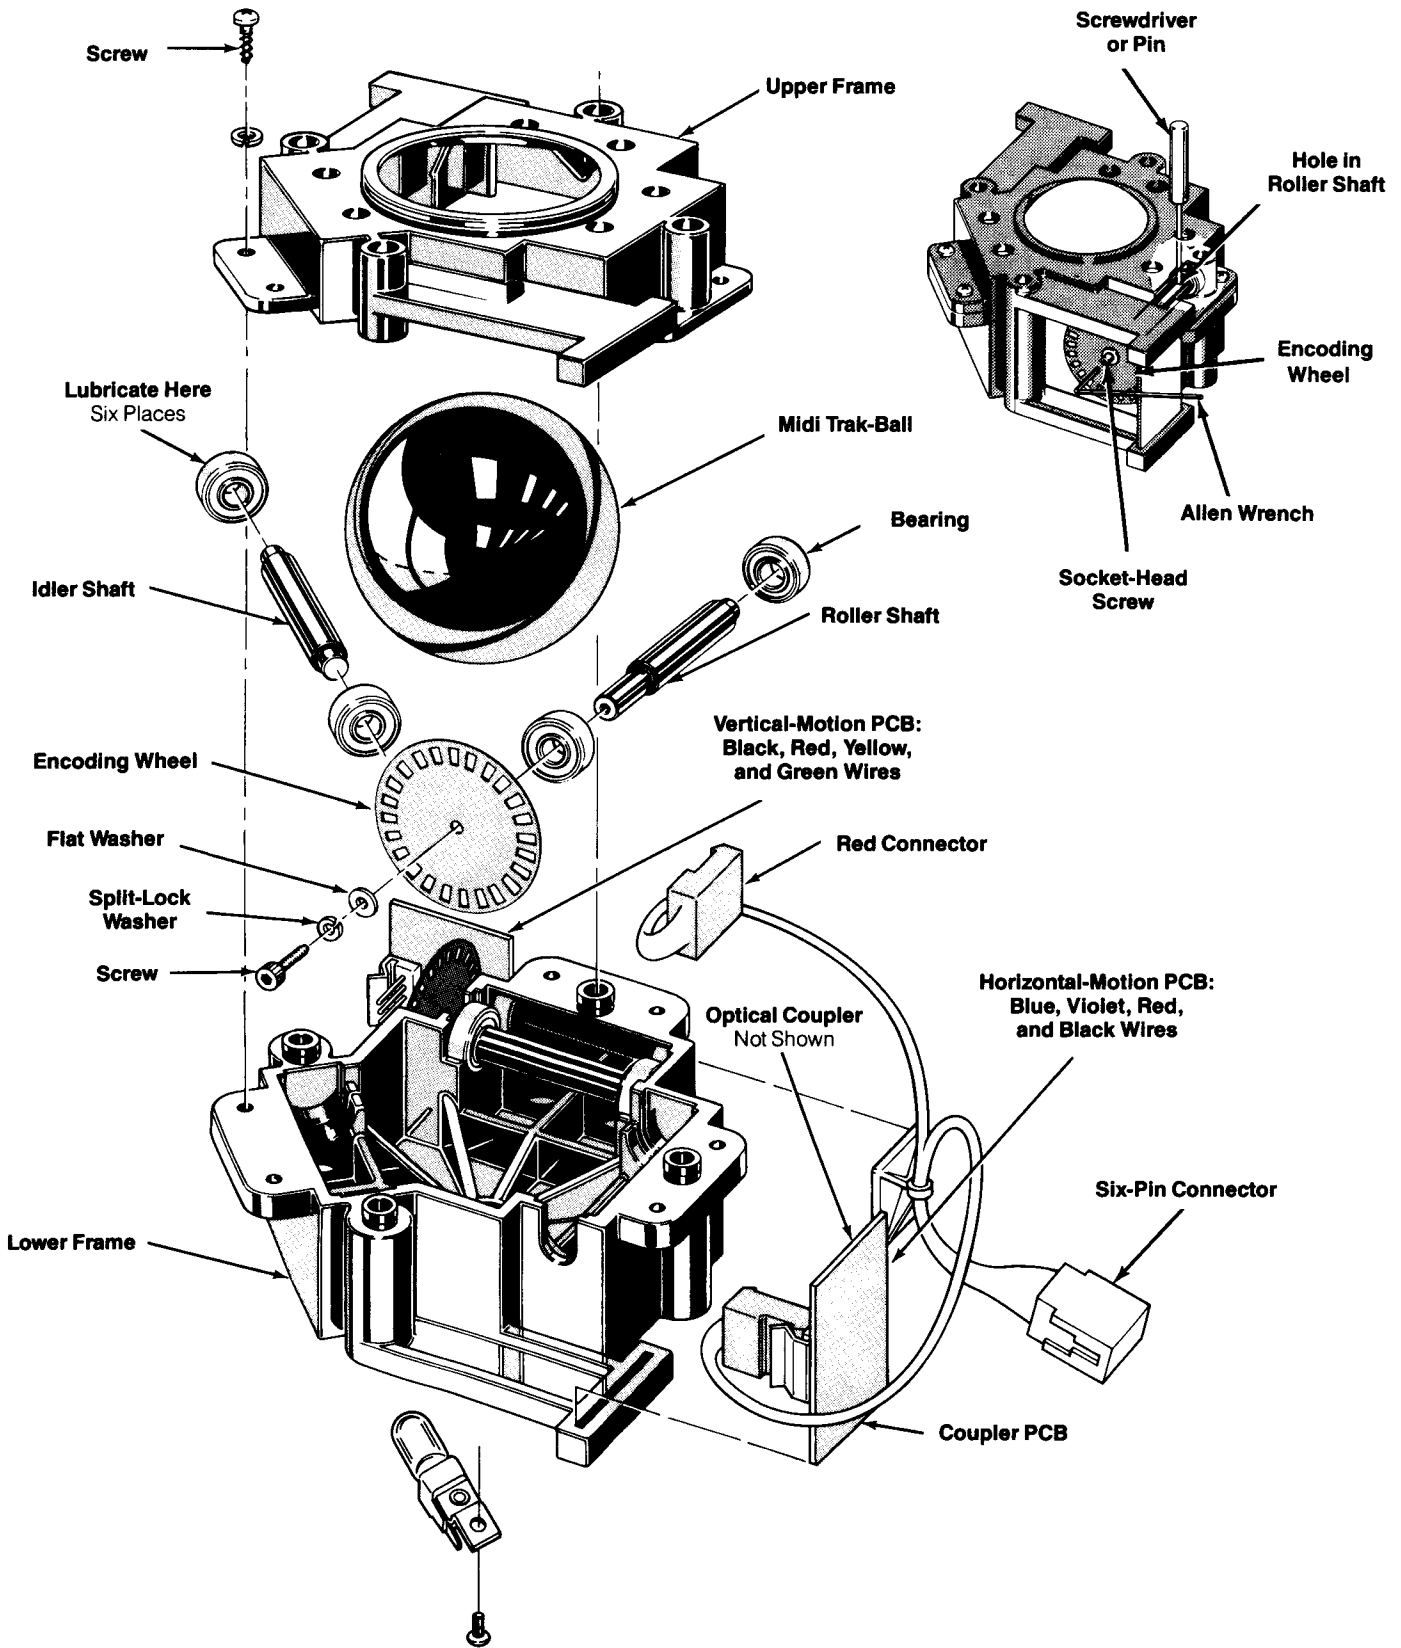

Figure 4-1 Midi Trak-Ball™ Assembly and Lubrication
2. Remove the four nuts and carriage bolts that secure the Midi Trak-Ball assembly to the control panel (see Figure 4-1).
To disassemble the Midi Trak-Ball after it has been removed from the control panel, remove the six screws that secure the upper and lower frames (see Figure 4-1). Lift off the upper frame. The Midi Trak-Ball can now be disassembled.
Lubrication of the Midi Trak-Ball assembly should be performed every three months or 6,000 credits (as counted on the coin counter). To lubricate, place two drops of a light-duty oil, such as 3-In-One oil, on each of the six ball bearings shown in Figure 4-1.